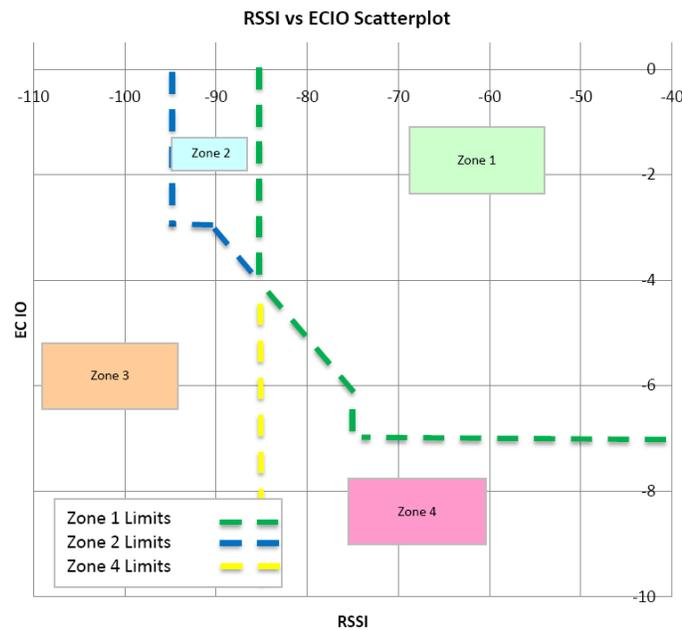

Figure 2-2. Signal Strength (RSSI) versus noise (EC/Io) Plotting
- Follow the allowable RSSI and EC/Io signal level installation zones in Figure 2-2, “Signal Strength (RSSI) versus noise (EC/Io) Plotting,” on page 2-5 graph. To view the WR11’s detailed signal levels see the section “Troubleshooting the Digi WR11 Router” on page 8-2.